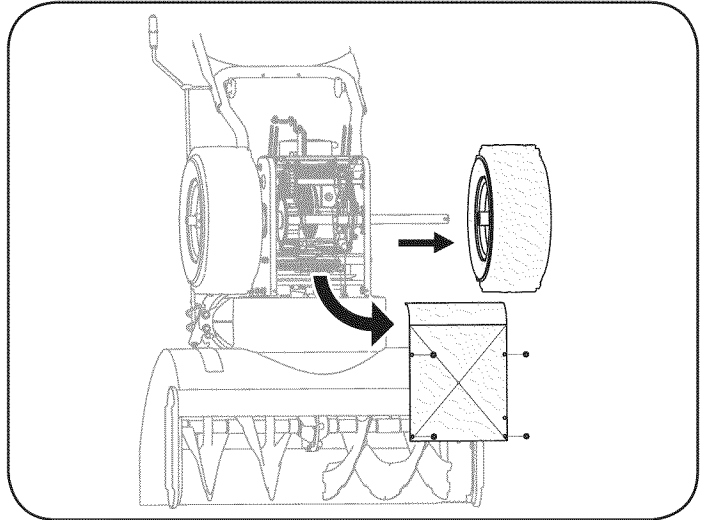

Figure 31
3. Remove screws from the frame cover underneath the snow thrower (refer to Figure 31). Remove the right wheel from the axle.